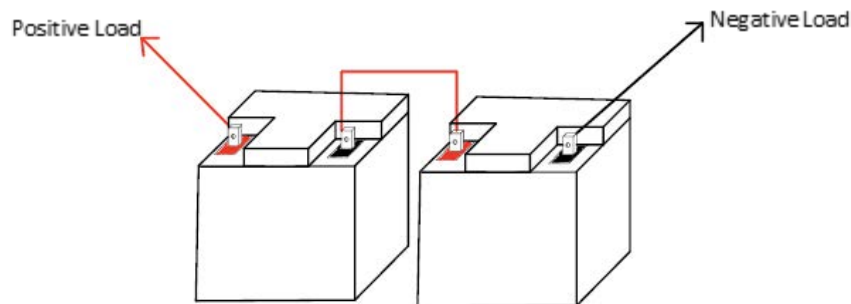

Figure 4: Two 5012 Batteries Connected in Series to create a 24V 50Ah Battery Bank
When batteries are connected in series, current capacities remain the same, but the system voltage is additive. For example, two BB5012 batteries connected in series form a nominally 24V system (shown in Fig. 4) and should be charged using a bulk and absorption voltage of 28.8V, and a float voltage of 27.2V.
7. Repeat steps 3-6 for additional batteries, but **DO NOT** exceed 48V. An example of a correct series connection can be found below in Fig. 4.